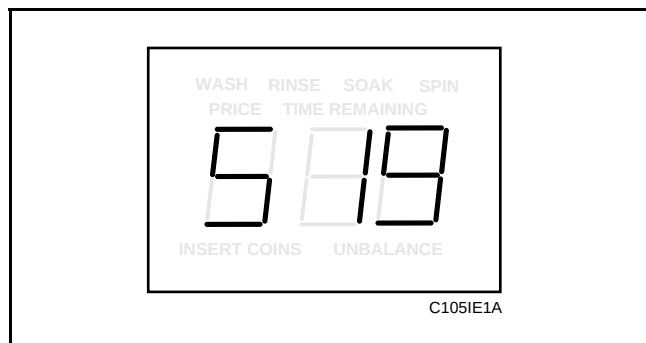

Figure 103
2. While pressing and holding the PERM PRESS keypad with one hand, press the COLD keypad with the other hand. Programmable option number one, “Slg”, will appear in the VFD. See **Figure 103**.